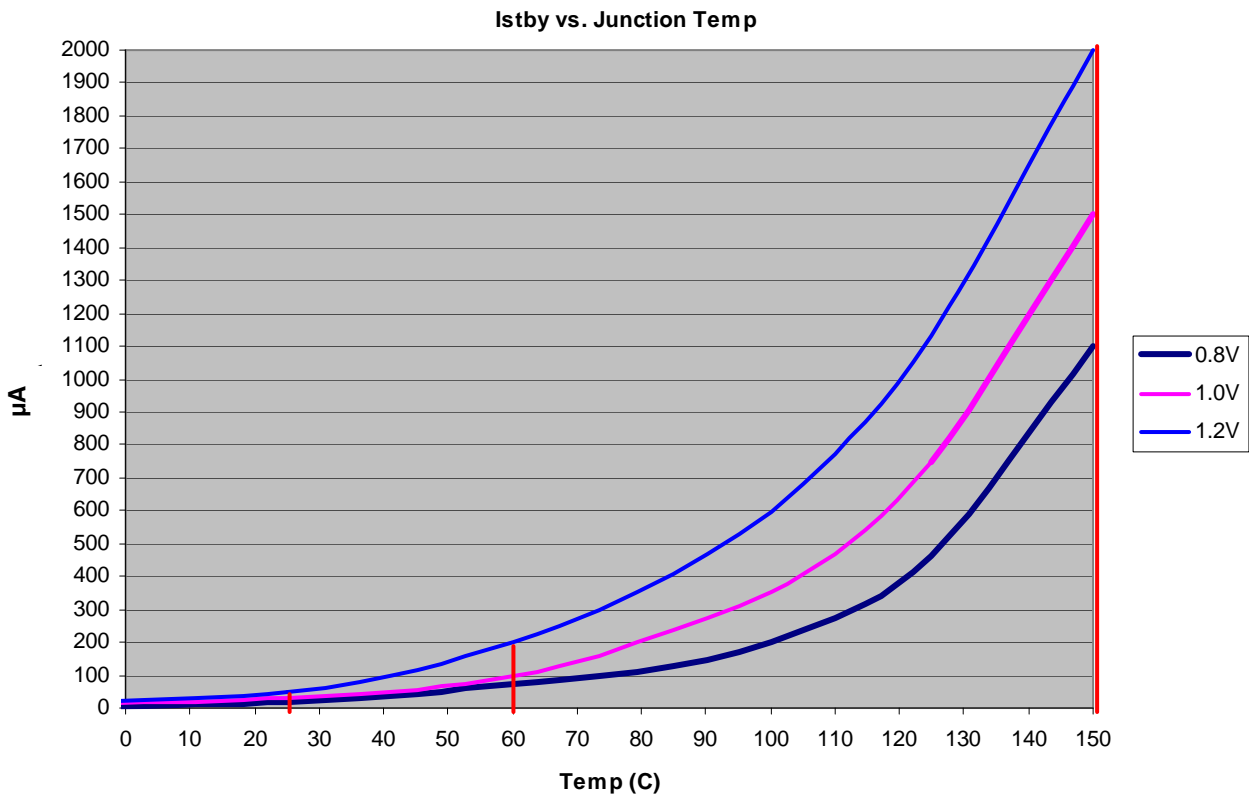

Figure 3. I_{STBY} Worst-case Specifications
- 11 Figure 3 shows an illustration of the I_{DD_STBY} values interpolated for these temperature values.
Figure 3 shows an approximate interpolation of the I_{STBY} worst-case specification to estimate values at different voltages and temperatures. The vertical lines shown at 25 °C, 60 °C, and 150 °C in Figure 3 are the actual I_{DD_STBY} specifications (27d) listed in Table 9.